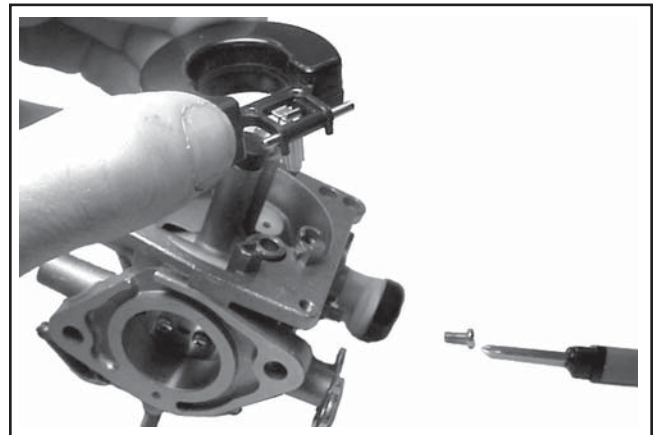

Figure 5-10. Removing Float and Inlet Needle.
2. Remove the float pin screw and lift out the old float, pin, and inlet needle. See Figure 5-10. Discard all of the parts. The seat for the inlet needle is not serviceable, and should not be removed.